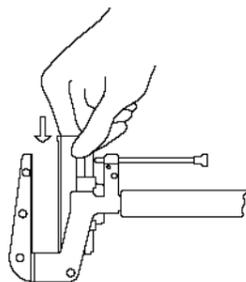

Fig. 2
1. Select a stapler with a proper size and a staple cartridge with a corresponding size depending on the requirement of stapling length. Close the stapler safety. Turn the shifting nut counterclockwise until the gap between the staple holder clipper and the anvil reaches the maximum. Pull to open the retaining slide pin and insert the staple cartridge into the staple holder clipper until it is pushed to its position. (Fig. 2)